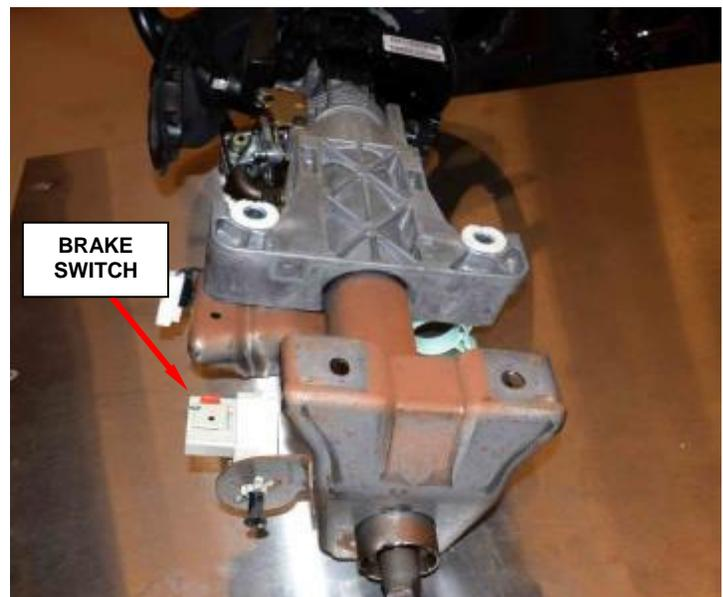

Figure 67 - Brake Switch Connector (Column out of Vehicle for Photographic Purposes)
11. Disconnect the brake switch electrical connector (Figure 67).